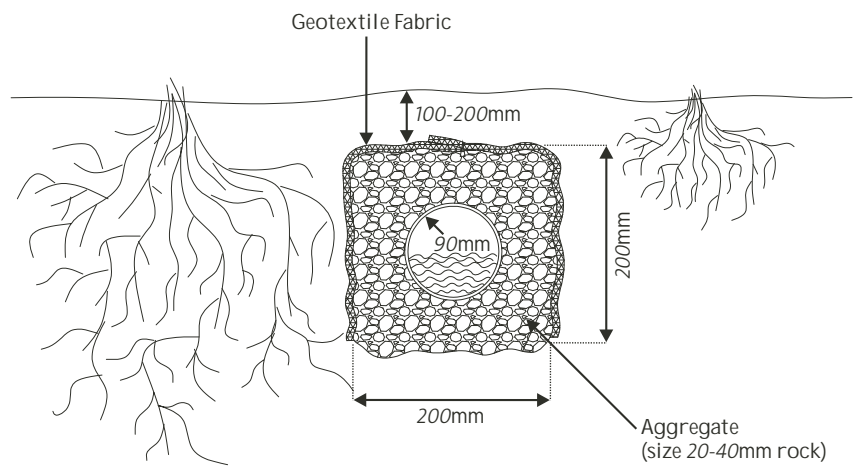

Figure 7
10. Back fill the trench with 20-40mm aggregate to 200mm overall depth. Fold the geotextile material top edges over the aggregate surface and backfill the remainder of the irrigation trench with soil (see Figure 7).